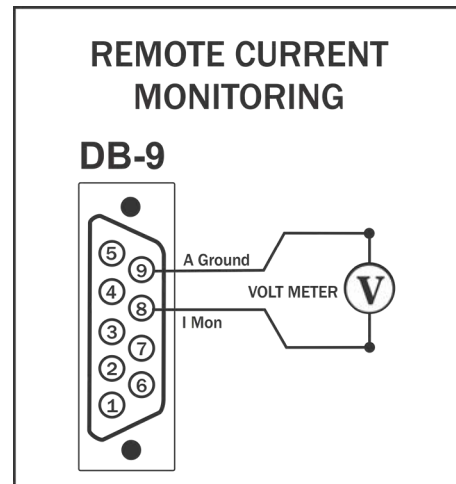

Figure 6.6 – Remote Current Monitor Application Wiring on DB-9 Control Port
**Method:** Connect a voltage meter to monitor the output current being produced by the unit. Connect across PIN 8 (I MON+) and PIN 9 (Analog Ground). See **Figure 6.6**.